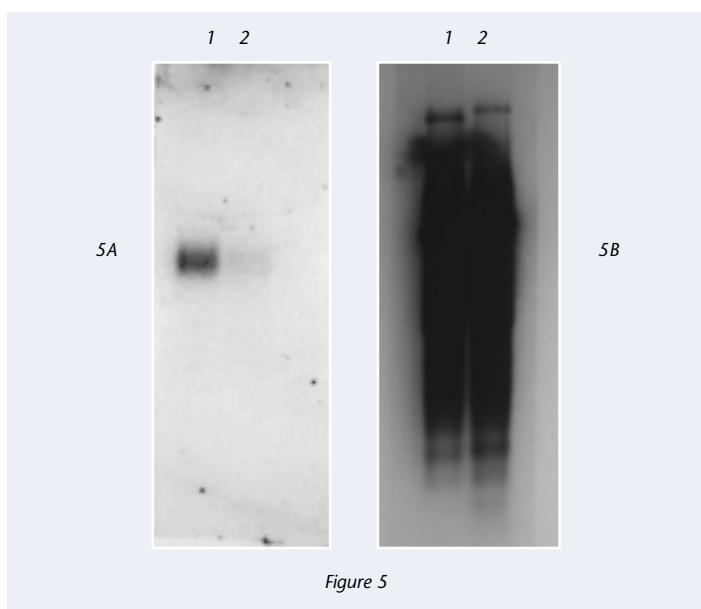

Figure 5
Figure 5: Detection of a Low Expressed Transcript with Varying Hybridization Conditions. Duplicate lanes of 5  $\mu$ g of total RNA from WEHI-231 untreated and anti-IgM treated cells were electrophoresed on a 1% formaldehyde gel and transferred by a 2 hour alkaline method to Biotodyne B Nylon Membrane. The membrane was cut in half and hybridized with a biotinylated c-myc riboprobe in either formamide or aqueous hybridization buffer. Detection was carried out using the Detector AP Chemiluminescent Blotting Kit. 5A: When using a formamide-based solution, the c-myc gene was observed as a single band in the control sample (1) and the down-regulated treated sample (2). 5B: Significant non-specific binding of the probe to the total RNA resulted on the blot hybridized in an aqueous hybridization solution.
The hybridization solution contained in Detector kits was formulated to include formamide. As a destabilizer formamide lowers the melting temperature of hybrids, increasing the stringency of the probe to target binding. Use of this agent results in minimal nonspecific hybridization; less optimization of washes is required by the end user. Unlike aqueous hybridization solutions, buffers containing formamide effectively minimize background to allow subsequent detection of single copy genes and low expressed transcripts. (Figure 5) Thus, these types of solutions can be applied more universally. Blotting procedures may also be expedited through the use of Formamide Hybridization Buffer, reducing an overnight hybridization to 2 hours without impact on signal:noise ratio. Note that this is acceptable when detecting plasmid DNA or moderately expressed transcripts; however, overnight incubations are required for greatest sensitivity when detecting low copy genomic DNA and rare mRNA.